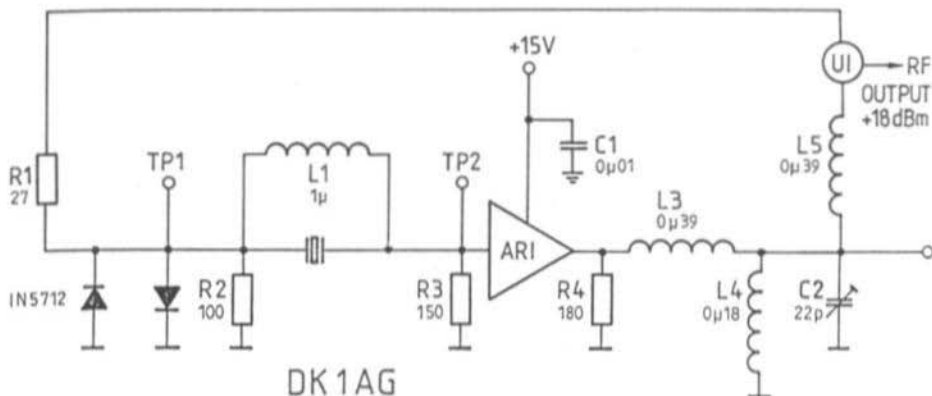

Fig.10 MMIC oscillator circuit according to (8)
Avantek, Q-Bit et al.). For low phase noise the amplifiers should not be driven to self-limiting, since their  $1/f$  noise starts to increase a lot close to the (1dB) compression point (8), whereby the carrier-near noise (30dB per decade) of the oscillator becomes very bad. An example circuit for around 80MHz is indicated in Fig.10.